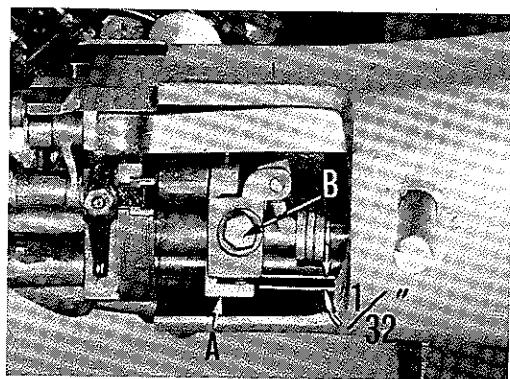

Fig. 15
Open the bobbin case latch (A, Fig. 15), and insert bobbin (B) so that the thread will come off the bottom of the bobbin in the direction of the bobbin case tension spring (C) and through the notch (D) in the bobbin case. Close bobbin case latch. The tension on the bobbin thread is controlled by turning screw (E) in the required direction. For easier access to this screw, have the needle carrier at high position.